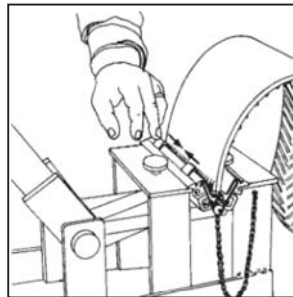

Figure 7
10. RAISE POWER LEVER. Move each pressure plate inward to next section of hooks not yet clinched with pressure plates. Repeat until pressure plates meet in center. Reverse procedure, working outward until all hooks have had contact with the pressure plates twice (Fig. 7).